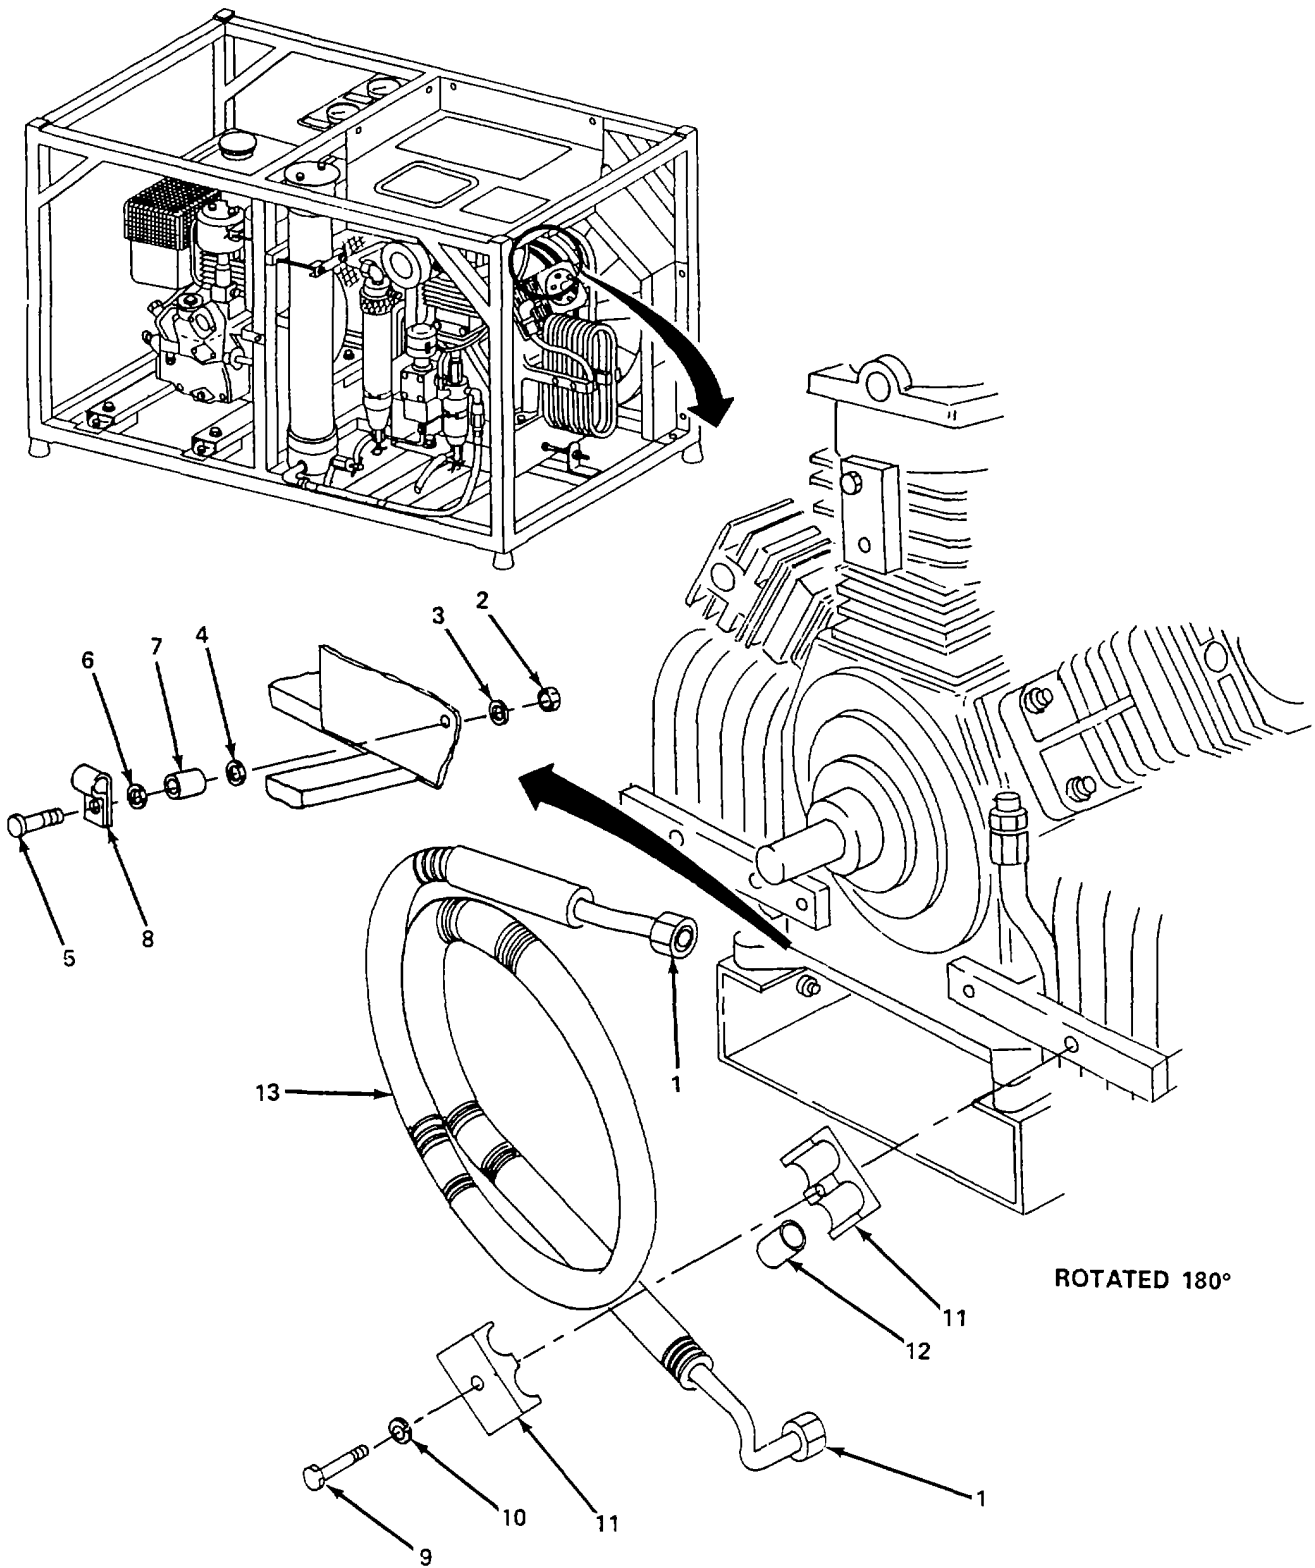

Figure 5-16. Aftercooler, Replace.
*Replace.* (figure 5-16)**WARNING**
- (1) Loosen two connector nuts (1).
- (2) Remove nut (2), lockwasher (3), flat washer (4), bolt (5), flat washer (6), spacer (7), and clamp (8).
- (3) Remove three bolts (9), lockwashers (10), six blocks (11), one spacer (12), and aftercooler (13).
- (4) Install aftercooler (13) and tighten two connector nuts (1).
- (5) Install six blocks (11), one spacer (12) and secure with three bolts (9), and lockwashers (10).
- (6) Install clamp (8) and secure with spacer (7), flat washer (6), bolt (5), flat washer (4), lockwasher (3) and nut (2).